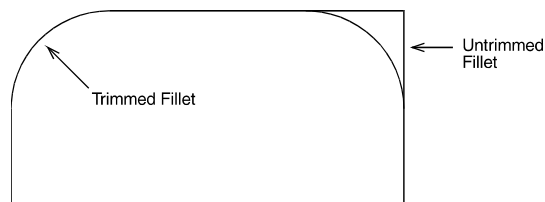

Figure 12.1: Lines trimmed to fillet (Clip on) and lines left untrimmed (Clip off)
5. Toggle Clip on or off. To trim the ends of the selected lines to the ends of the arc, toggle Clip on. To draw the arc but leave the ends of the lines unaffected, toggle Clip off (see Figure 12.1).